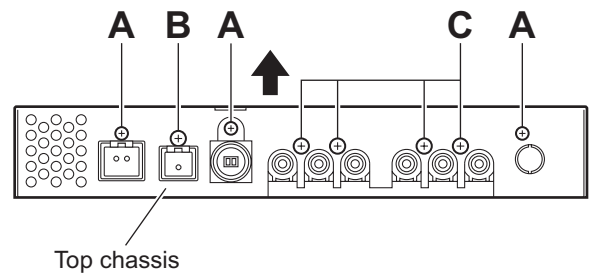

Fig.3
- (2) From the front side of the main body, remove the three screws **A**, screw **B** and four screws **C** attaching the top chassis. (See Fig.3.)